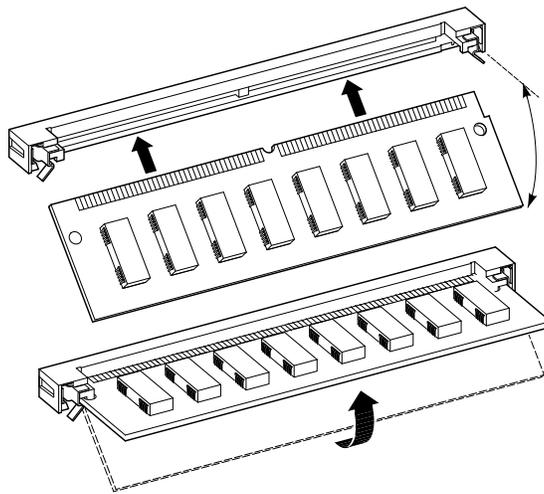

Figure 4-5. Installing a SIMM
6. Install the SIMM into the socket at a 45-degree angle (Figure 4-5). Be sure that the notch is oriented as shown. Rock the SIMM gently until it is seated evenly into the bottom of the socket. Using equal pressure near both ends, tip the SIMM upright until both the retaining clips at the ends of the socket engage.